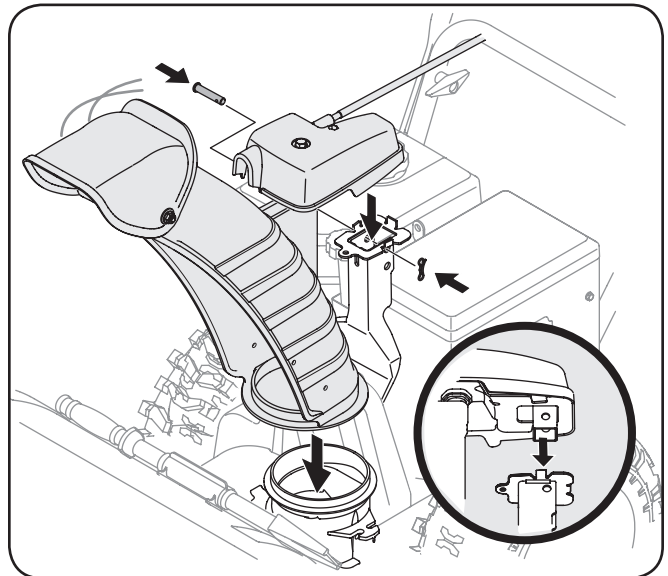

Figure 3-5
3. Place chute onto chute base and ensure chute control rod is positioned under the handle panel. Secure chute control head to chute support bracket with clevis pin and bow-tie cotter pin removed in step 1. See Figure 3-5.